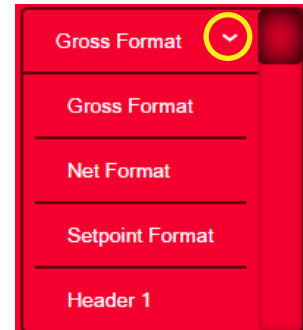

Figure 7-2. Select Format
2. Press the selection field arrow (circled in Figure 7-2) to select the print format to be configured. The current settings for that format will appear to the right.